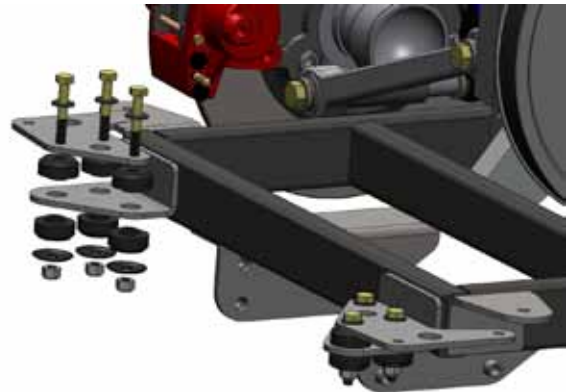

Figure 19
- e. Install muffler brackets to body mount frame using hardware in supplied kit. Note orientation in illustration. **Figure 19.**